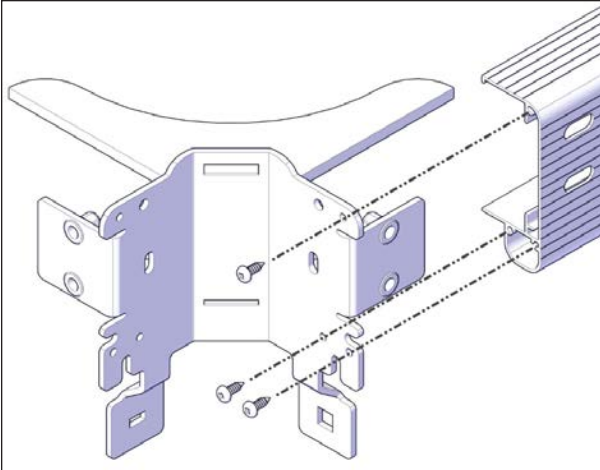

FIGURE 25: CORNER BRACKET INSTALLATION
5. Insert the inner corner brackets in both ends of the remaining C- channels. Use the provided Robertson sheet metal #8 x 3/4 in. screws on the inside holes, see Figure 25.